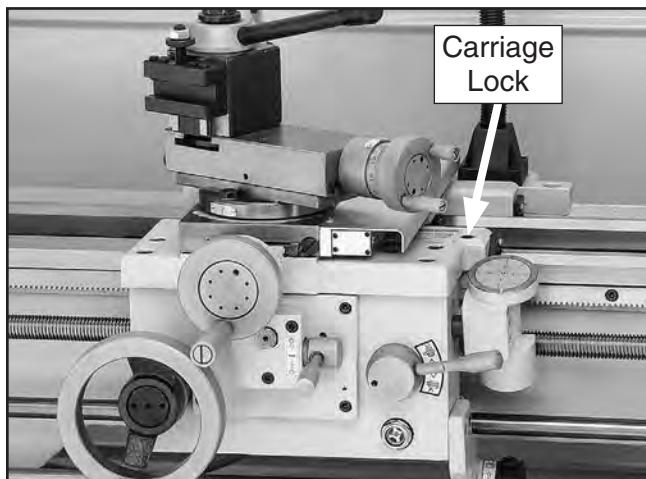

Figure 121. Location of carriage lock.
The saddle is supplied with a carriage lock on the front right-hand side of the slide (see **Figure 121**). This bolt locks the saddle in place for increased rigidity when making face cuts. Before making adjustments to the saddle gib, make sure that this lock is loose by turning it counterclockwise one full turn.
3. If carriage lock (see **Figure 121** on **Page 71**) is tight, loosen it two turns.